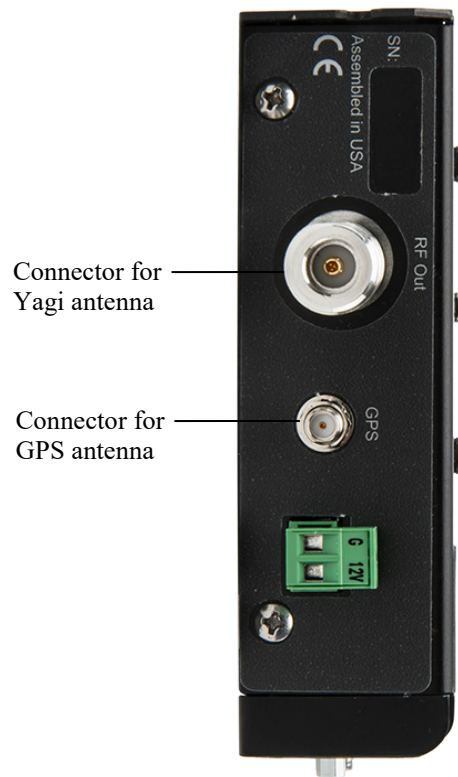
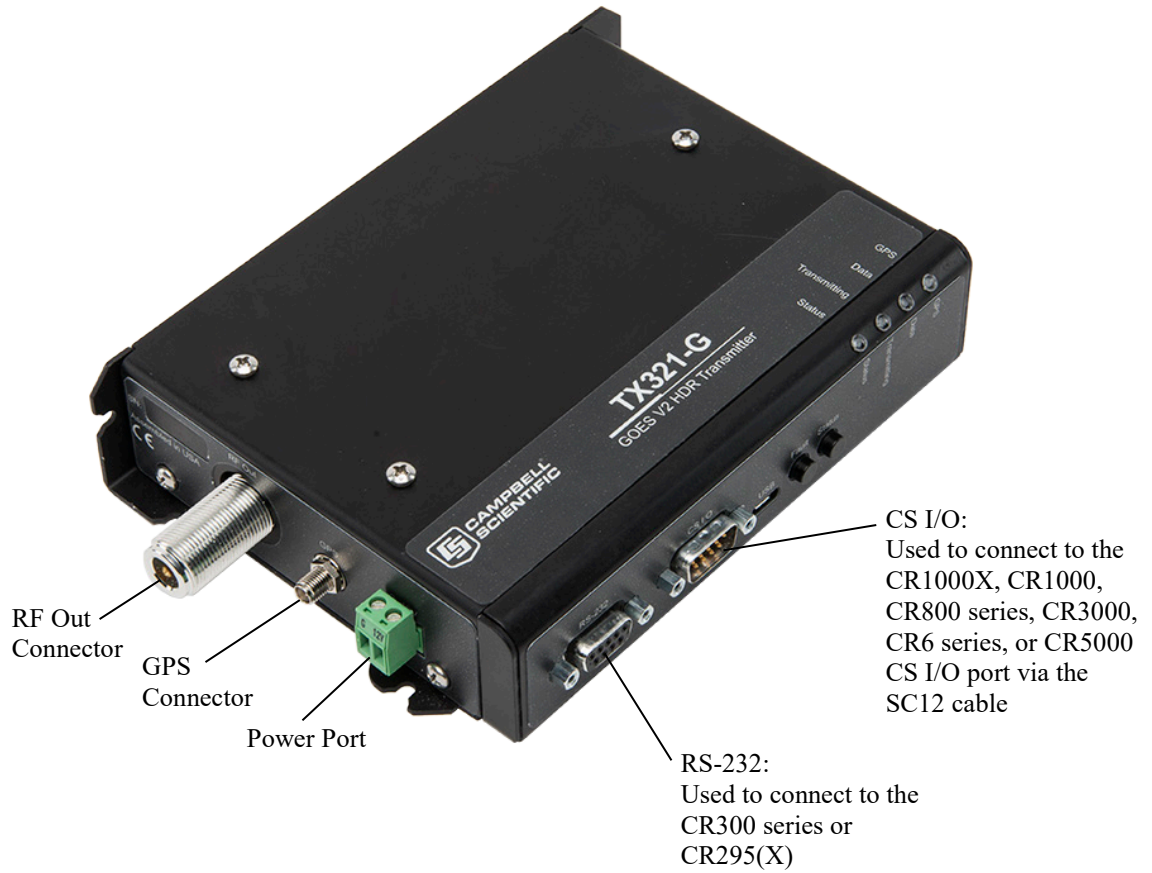
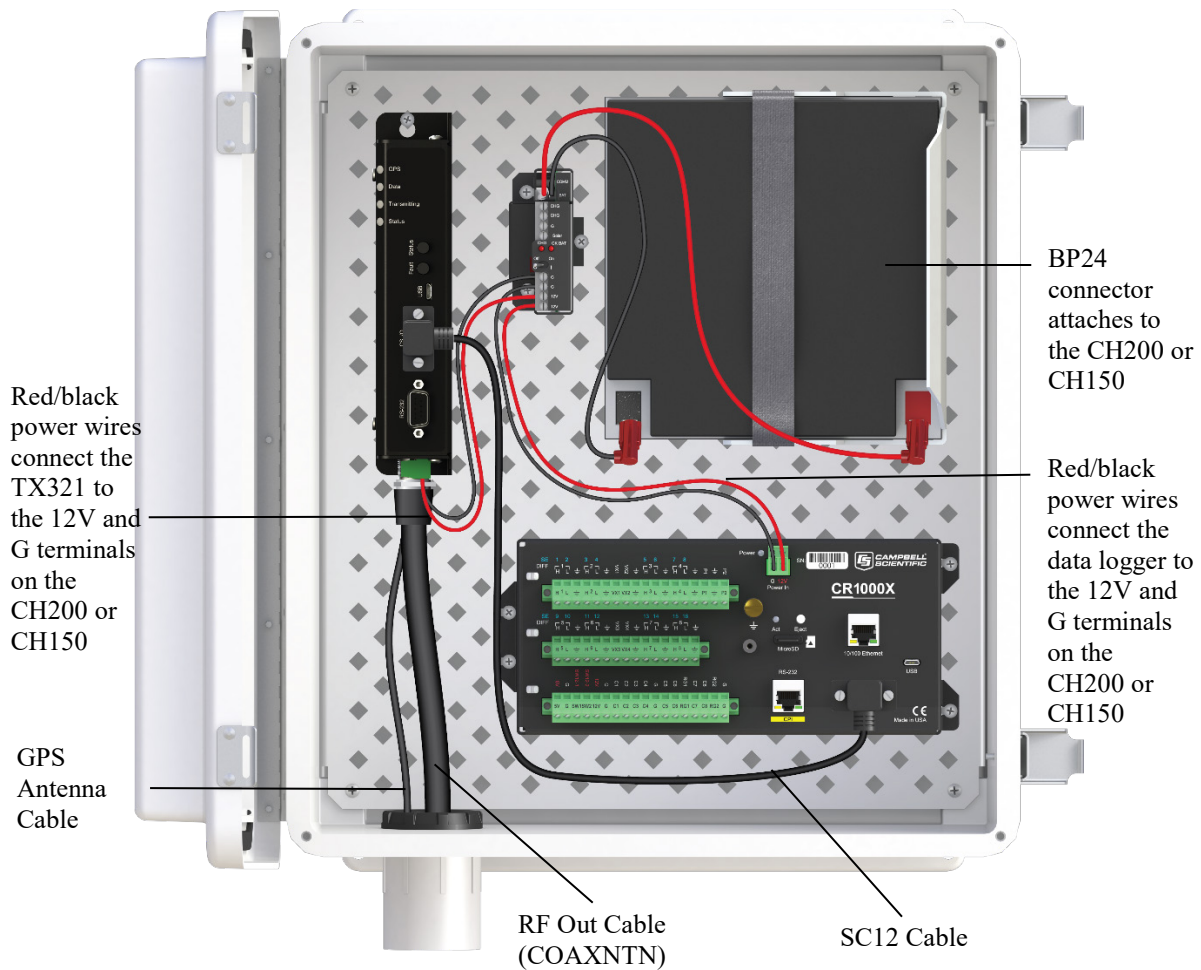

FIGURE 4-7. Antenna connectors
FIGURE 4-8. TX321 connectors
FIGURE 4-9. DCP enclosure
Refer to Section 4.1.1, *Accessing DevConfig (p. 2)*, for information about accessing *DevConfig*. The transmitter internal GPS can be used to acquire azimuth and elevation information. To use the internal GPS device, connect the GPS antenna (see FIGURE 4-7). The information is listed on the GPS tab of *DevConfig*.
6. Mount the TX321, the CH150 or CH200 regulator, the BP12 or BP24 battery pack, and the data logger to the backplate of an ENC16/18 enclosure (see FIGURE 4-9).
8. Connect the COAXNTN cable to the Yagi antenna. Route the COAXNTN cable through the enclosure conduit and connect it to the TX321 connector labeled RF Out (see FIGURE 4-7 and FIGURE 4-8).
9. Connect the TNC connector of the GPS antenna cable to the GPS antenna. Route the GPS antenna cable through the enclosure conduit and connect it to the TX321 connector labeled GPS (see FIGURE 4-7 and FIGURE 4-8).
10. Wire the TX321, the CH150 or CH200 regulator, the BP12 or BP24 battery, and the data logger according to FIGURE 4-8 and FIGURE 4-9.